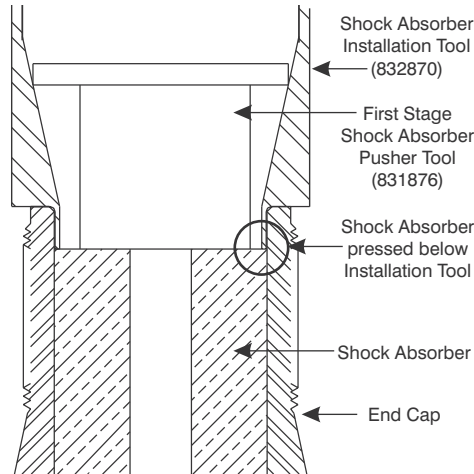

Figure 9-3. Shock Absorber in End Cap
6. When the pusher tool reaches this depth, the Shock Absorber has cleared the end of the Installation Tool, as shown in Figure 9-3.
Do Not remove the Installation Tool 832870 unless the Shock Absorber has cleared the bottom of the tool as shown in Figure 9-3(B).